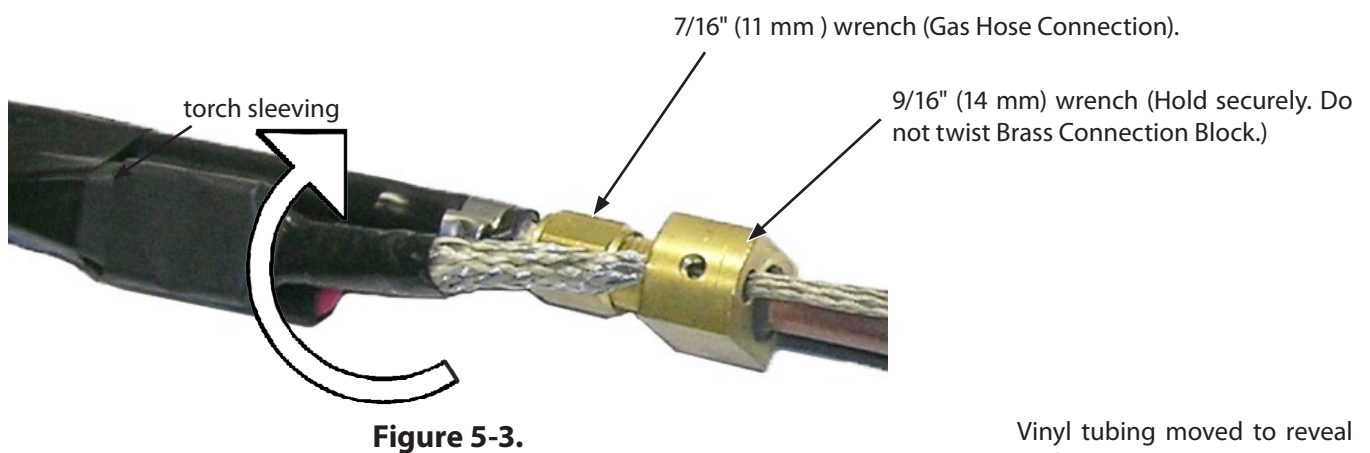

Figure 5-3.
3. Disconnect gas hose connection by using a 7/16" (11 mm) and 9/16" (14 mm) wrench. Hold the brass connection block wrench steady while twisting the hose connector wrench as shown (See figure 5-3).